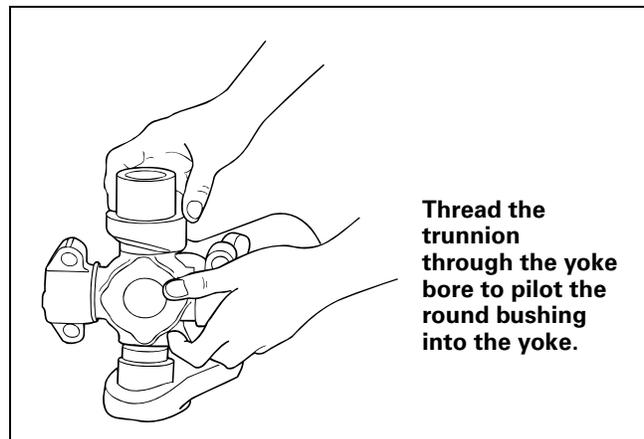

Figure 4.37
7. Position the second bushing onto the trunnion by threading the cross through the yoke bore as shown. Figure 4.37.